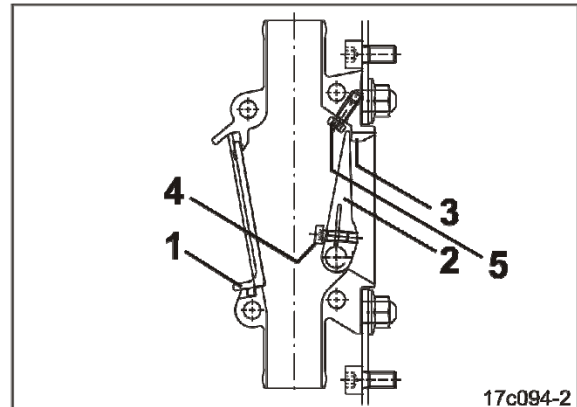

Fig. 241
2. Push up the assembly window (Fig. 241/1) and take out of the flap box from the front.
3. Press the flap (Fig. 241/2) against the stop (Fig. 241/3) and release the hexagon socket head screw (Fig. 241/4) enough to allow the flap to move freely on the shaft.
4. Unscrew the locking screw (Fig. 241/5) by approx. 5 mm to ensure that the deactivated flap cannot move and the opening to the hopper remains closed.